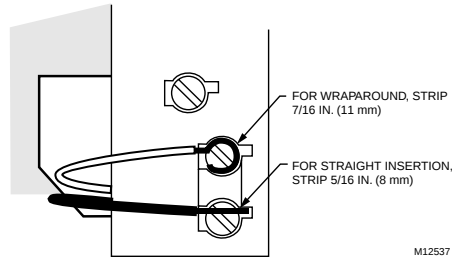

Fig. 5. CT3451 methods for wiring connection.
- ❑ Loosen the terminal screws and slip each wire beneath its matching terminal. The shape of the terminals permit insertion of straight or wraparound connections. See Fig. 5. Tighten the terminals.